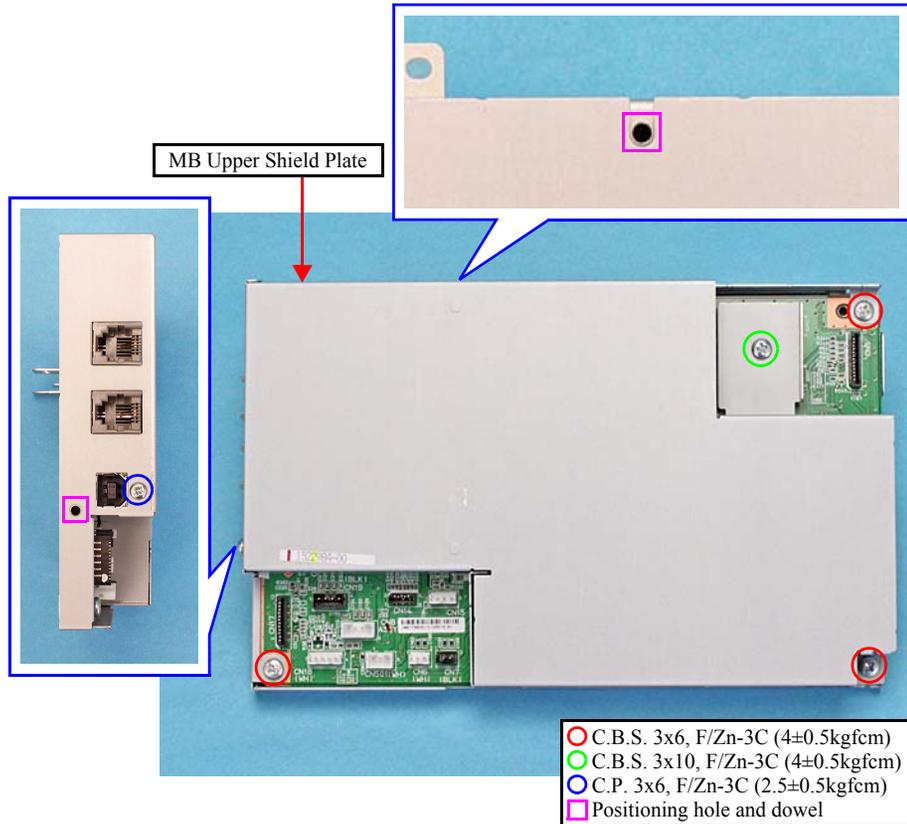

Figure 7-34. Removing the MB Upper Shield Plate
- When reassembling the Main Board Unit, make sure to match the positioning holes (x2) to the dowels (x2) as shown in Figure. 7-34.